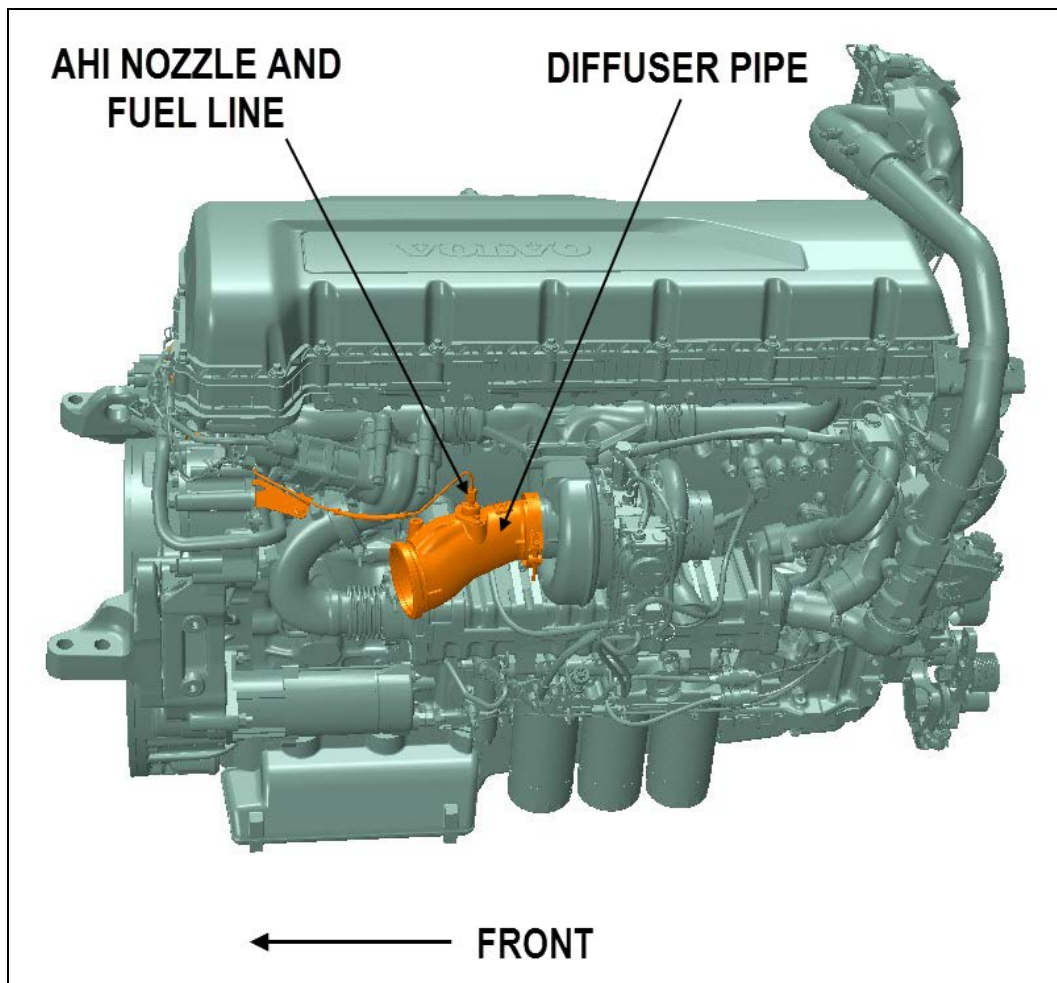

Figure 1
- 2) Open the access panel and locate the diffuser pipe and AHI nozzle at the exit of the turbo compressor (Figure 1).